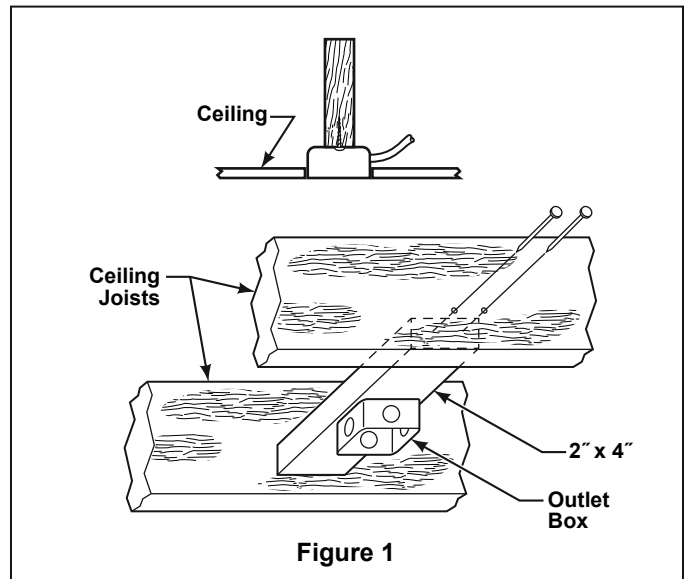

Figure 1
NOTE: If you are uncertain of part description, refer to exploded view illustration. (Figure 1, page 13)
Your new ceiling fan will require a grounded electrical supply line of 120 volts AC, 60 Hz, 15 amp circuit. The outlet box must be securely anchored and capable of withstanding a load of at least 50 lbs. **Figure 1** depicts different structural configurations that may be used for mounting the outlet box.
1. Remove the Hanger Ball by loosening the setscrew in the Hanger Ball until the ball falls freely down the Downrod. (Figure 1) Remove the Pin from the Downrod, then remove the Hanger Ball. Retain the Pin and Hanger Ball for reinstallation in Step 4 (Figure 4).
1. **Preliminary Hanger Bracket Attachment (Figure 1):** Drill $\frac{1}{4}$ " pilot hole through the center of the junction box, into the ceiling joist or structural member. Loosely attach hanger bracket to the ceiling structure using $\frac{3}{8}$ " x 4" lag bolt and flat washer. **DO NOT FULLY TIGHTEN THE LAG BOLT YET!** Hanger Bracket should be free to rotate.
The fan must be hung with at least 7' of clearance from floor to blades (Figure 1)